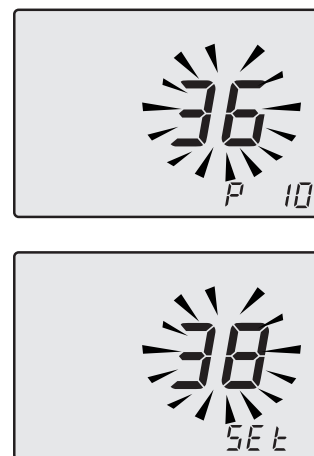

Fig. 7.35
- The writing **P10 - SEt** alternates on the display (Fig. 7.35).